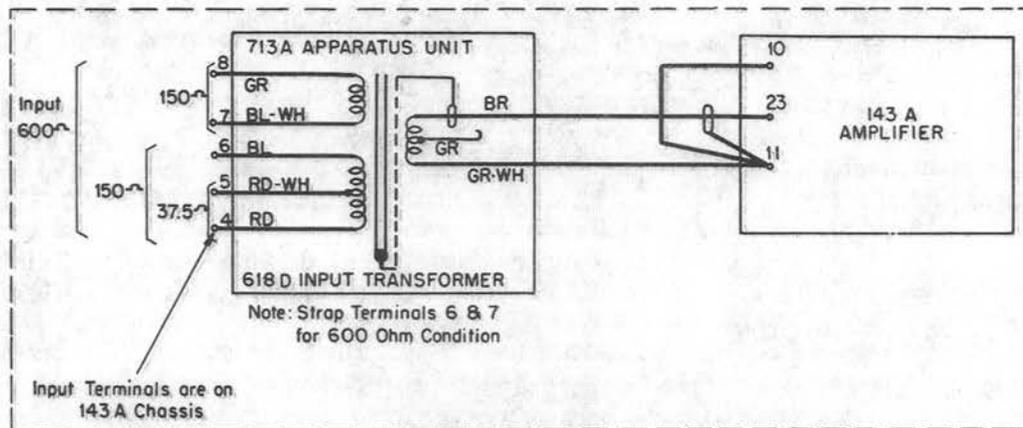

Fig. 3 — 143C Block Diagram
2.23 This amplifier consists of the basic 143A amplifier and a 713A Apparatus Unit. A block diagram of this amplifier is shown in Fig. 3. The 713A Apparatus Unit consists of a 618D Input Transformer that provides a choice of several line level inputs. This transformer is magnetically shielded by a container of high permeability material against electromagnetic pickup, and may be rotated to a position of minimum pickup if exceptionally strong fields are encountered.